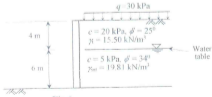

Fig.6
7. Fig.6 shows a frictionless retaining wall in active earth pressure conditions. Answer the following questions -